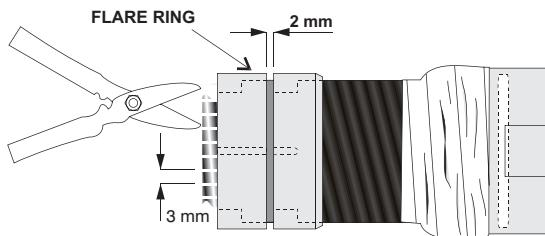

FIGURE 4
Step 6) Use metal snips to make cuts into the end of the waveguide at 3 mm intervals to form tabs (see Figure 4). Make the cuts as close as possible to the flare ring.